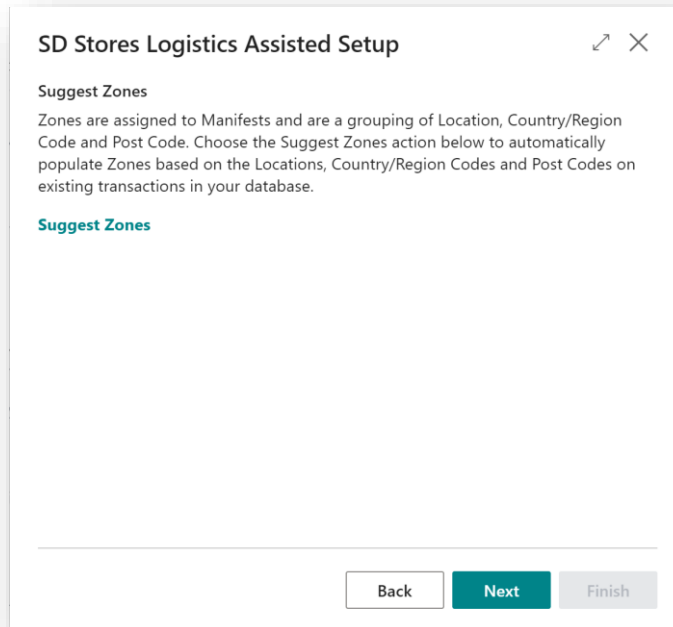

Figure 4-5
5. Choose the **Suggest Zones** action to populate the Zones that will be used in SD Stores Logistics (Figure 4-5).